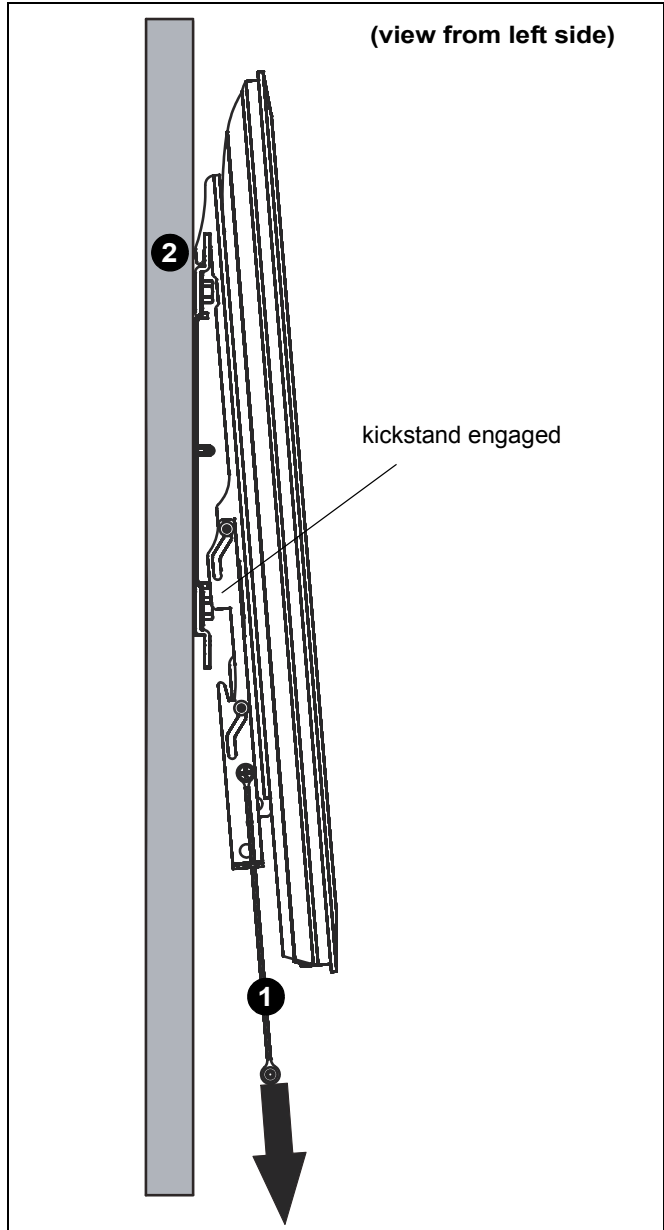

Figure 10
1. Make sure interface brackets are in the kickstand position by pulling down on handles as far as possible. (See Figure 10)
2. Hang display with brackets (B) on upper rail of wall plate (A). Kickstand should be engaged with lower portion of wall plate. (See Figure 10)